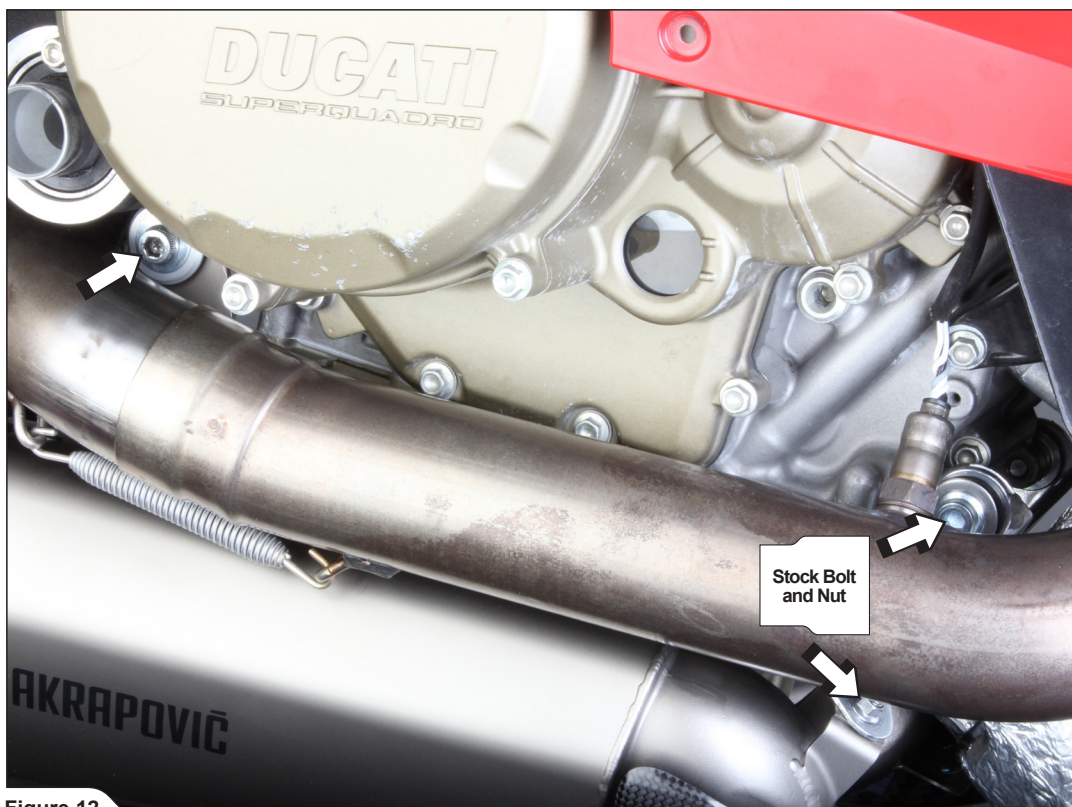

Figure 12
6. Hand tighten the mufflers onto the engine (Figure 12).